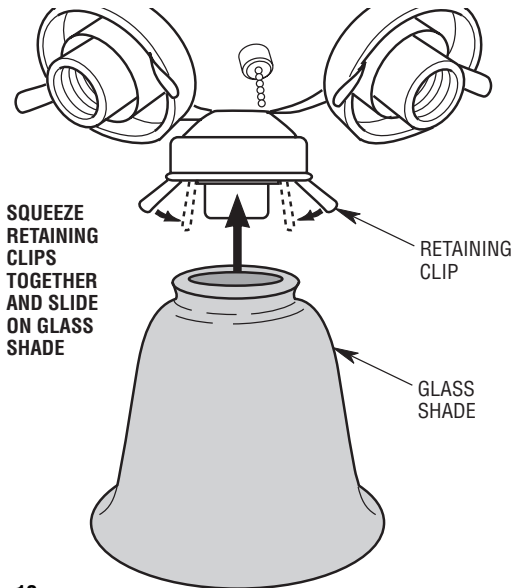

Figure 13
- 1. To install the glass shade, squeeze the retaining clips towards the bulb socket and slide on the glass shade (Figure 13). The spring clips will seat the shade and secure it in place.